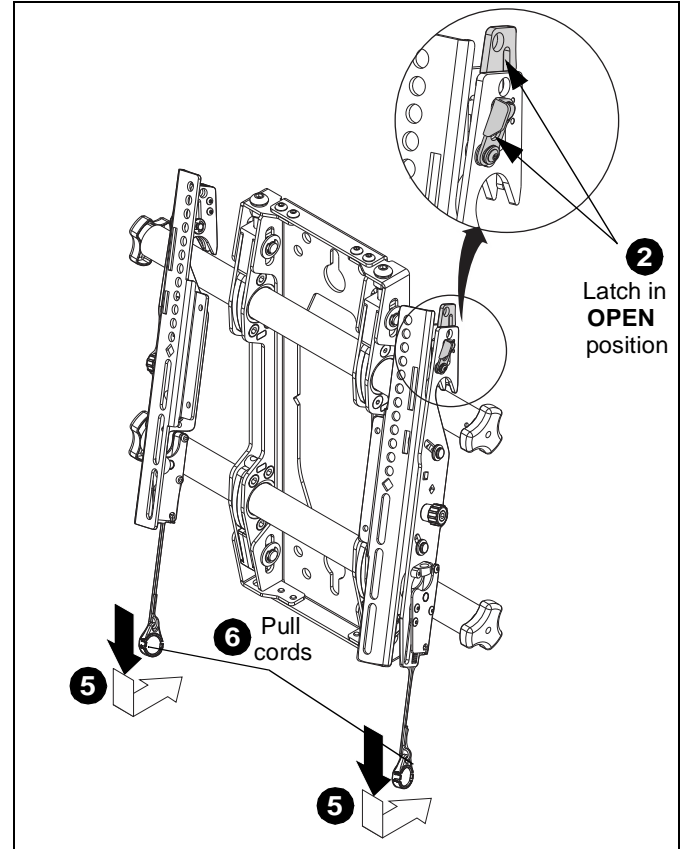

Figure 9
1. Hang screen onto the top rail of the mount (X). (See Figure 9)
- Move latch on top of interface brackets to OPEN position and hang top hook of interface bracket (Y and Z) onto the top rail of the mount (X). (See Figure 9)
5. Attach end of pull cord (a magnet) to mount so it does not extend beyond bottom of screen. (See Figure 9)